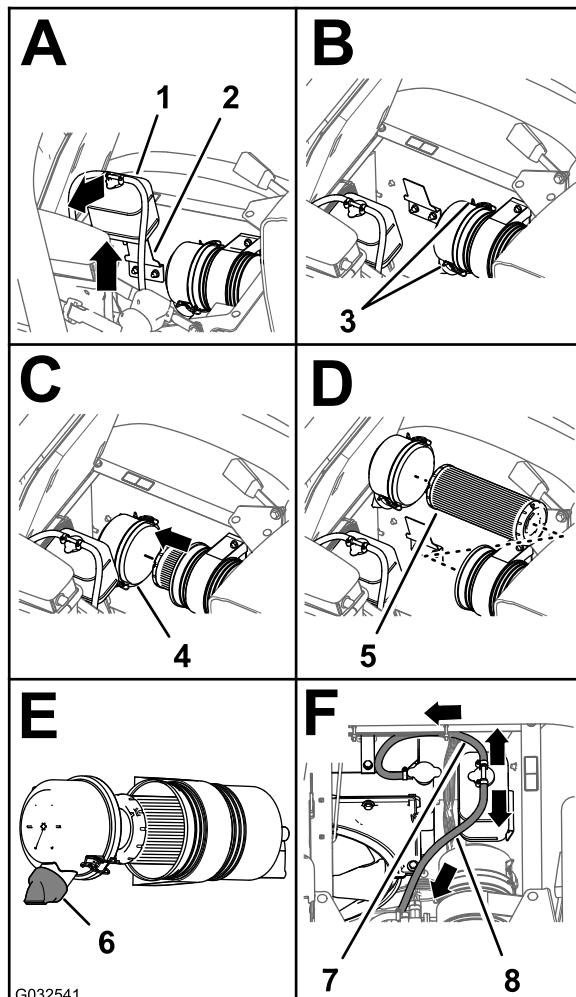

Figure 74
- Lift the coolant-overflow tank up and off the tank-support bracket (Figure 74).
4. Loosen the 2 latches that secure the dust cap to the air-cleaner body (Figure 74).
6. Clean the inside of the dust cap, air-cleaner body, and dust valve with a damp rag (Figure 73 and Figure 74).
7. Insert the air-filter element into the air-cleaner body (Figure 74).
- Install the cover onto the air-cleaner body and secure the cover with the 2 latches (Figure 74).
- Align the coolant-overflow tank to the tank-support bracket and seat the tank firmly (Figure 74).
**Important:** Ensure that the pressure-relief hose is routed forward and down, and the tank-vent hose is routed rearward as shown in Figure 74.